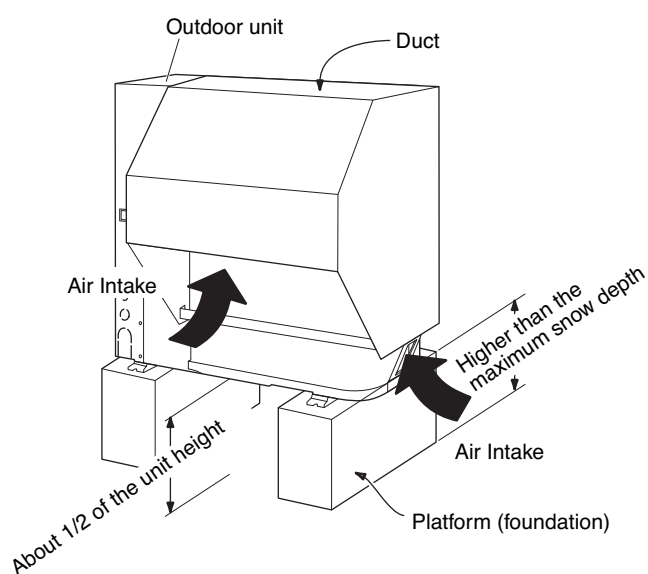

Fig. 5f
- In regions with significant snowfall, the outdoor unit should be provided with a platform and snow-proof duct. (Fig. 5f)